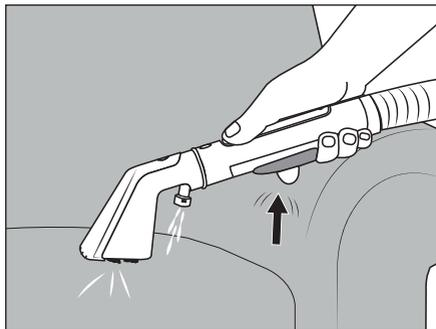

Fig. 6
(3) When using cleaning agents (vinegar-based cleaners and upholstery cleaning agents), always test how the appliance performs on an unobtrusive spot to ensure that no discolouration occurs.
(4) The appliance must be properly assembled before operation, and the fresh water tank ②  must be filled.
(5) Switch off the appliance before swapping the upholstery nozzle ㉒ and crevice nozzle ㉓.
(6) If the dirty water tank ⑦  is full, the float ⑥ closes the suction opening and the appliance runs at increased speed. Switch off the appliance immediately (see section **Cleaning the dirty water tank**).
(7) If the dirty water tank ⑦  is full, the float ⑥ closes the suction opening and the appliance runs at increased speed. Switch off the appliance immediately (see section **Cleaning the dirty water tank**).
- ◆ Fold the carrying handles ⑩ upwards and carry the appliance to the place where you need it.
- ◆ Hold the upholstery nozzle 22 2-3 cm above the area to be cleaned and press the spray button 20 to apply water / cleaning solution from the spray nozzle 26 (see Fig. 6).